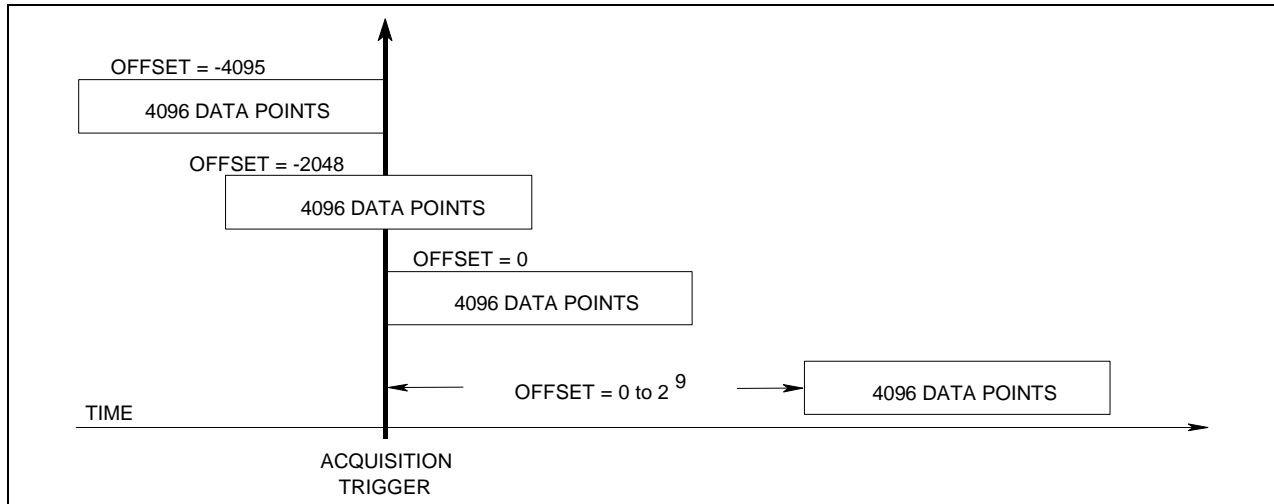

Figure 7-7. Pre-trigger and Post-trigger Acquisition
The measurement system lets you capture data before, after, or at the trigger signal. When a measurement is initiated, the dc source continuously samples the instantaneous signal level of the sensing function. As shown in figure 7-7, you can move the block of data being read into the acquisition buffer with reference to the acquisition trigger. This permits pre-trigger or post-trigger data sampling.
The Questionable Status registers record signals that indicate abnormal operation of the dc source. As shown in figure 7-7, the group consists of the same type of registers as the Status Operation group. The outputs of the Questionable Status group are logically-ORed into the QUEStionable summary bit (3) of the Status Byte register.
This group consists of an Event register and an Enable register that are programmed by Common commands. The Standard Event event register latches events relating to instrument communication status (see figure 7-7). It is a read-only register that is cleared when read. The Standard Event enable register functions similarly to the enable registers of the Operation and Questionable status groups.